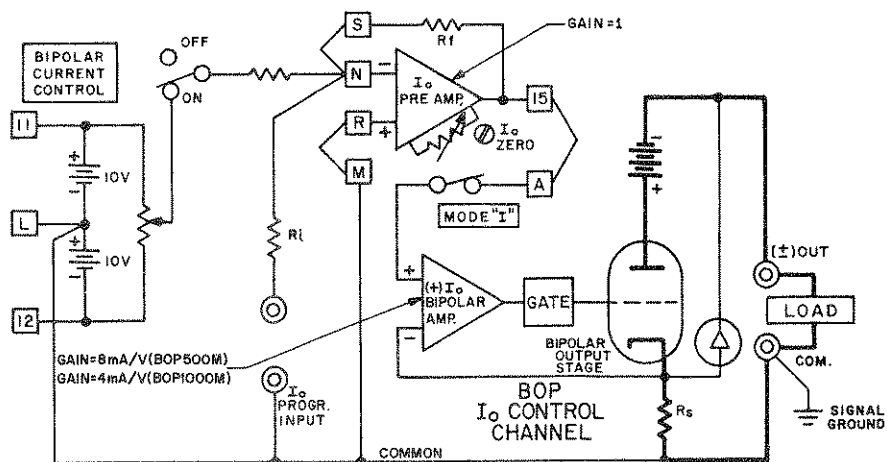

FIG. 3-12 LOCAL (FRONT PANEL) CONTROL OF THE BOP OUTPUT CURRENT WITH THE BIPOLAR CURRENT CONTROL.
- 3-29 GENERAL: In the local (front panel) control mode, the BOP output current can be controlled by means of the BIPOLAR CURRENT CONTROL, with the BIPOLAR CURRENT CONTROL SWITCH closed, and the MODE SWITCH in the "CURRENT" position, over the full output range. The control potential zero to (±) 10V is applied to the I_o PRE-AMP, operating with unity gain, to the I_o BIPOLAR AMP which drives the BIPOLAR OUTPUT STAGE with a fixed gain of 8 mA per volt (BOP-500M) and 4 mA per volt (BOP-1000M) respectively. A d-c control signal from zero to (±) 10 volts will, therefore, control the BOP output current through its specified range (refer to FIG. 3-12).